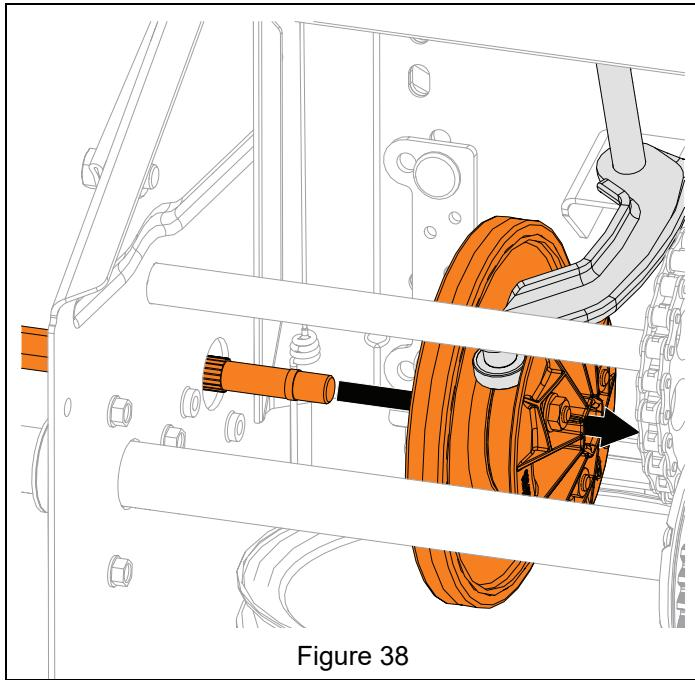

Figure 38
1. Align friction disc assembly with shift fork roller bearing and hex shaft. See Figure 38.